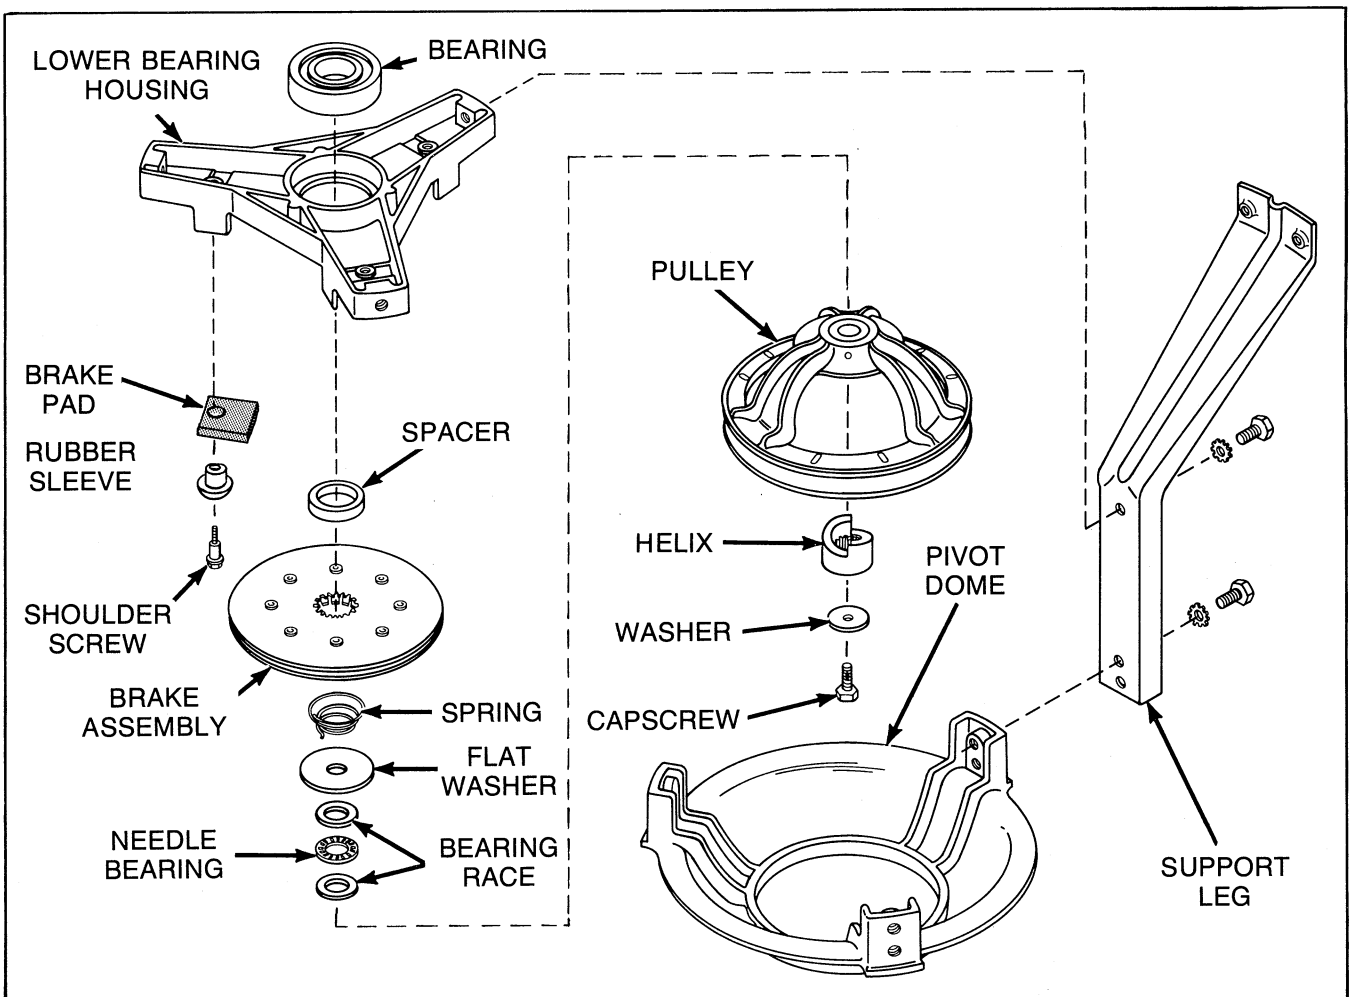

Figure 35
IMPORTANT: When reassembling, large flat washer, bearing race, needle bearing and bearing race must be in place, see *Figure 35* for assembly sequence.
- c. Remove three shoulder screws holding brake pads, rubber sleeves and brake assembly to lower bearing housing, *Figure 35*, then remove brake assembly, pads and spacer off bottom of transmission assembly.
NOTE: Refer to *Figure 35* for assembly sequence.
- o. Remove drive pulley from transmission shaft, *Figure 35*.
- p. Remove needle bearing, bearing races and large flat washer from transmission shaft, *Figure 35*.
- r. Remove three shoulder screws and rubber sleeves holding brake pads to lower bearing housing, *Figure 35*.
- t. Remove three cap screws and lockwashers (if present) holding lower bearing housing to tub support legs, *Figure 35*.